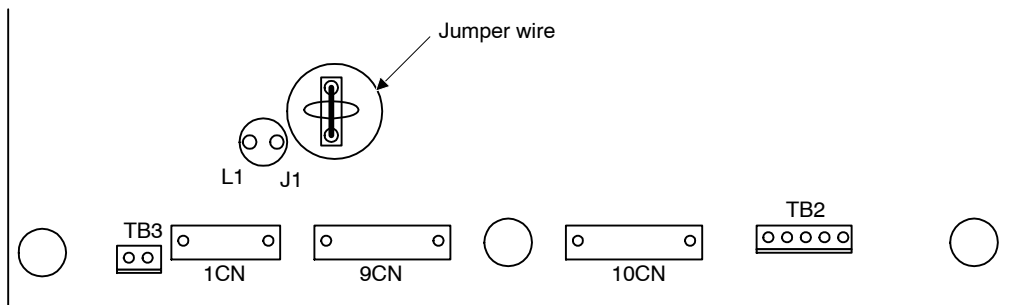

Fig 7.10 Jumper Wire Mounting Location on Control Board
- When supplying a voltage input to the frequency reference current input (terminal 39) (a setting of 0 or 1), be sure to disconnect jumper wire J1 on the control board. (See Figure 7.10.) If the jumper wire isn't disconnected, the input resistor will be destroyed.
- When supplying a voltage input to the frequency reference current input (terminal 39), be sure to disconnect jumper wire J1 on the control board. If the jumper wire isn't disconnected, the input resistor will be destroyed. Refer to *Figure 7.10* for a diagram of the control board.